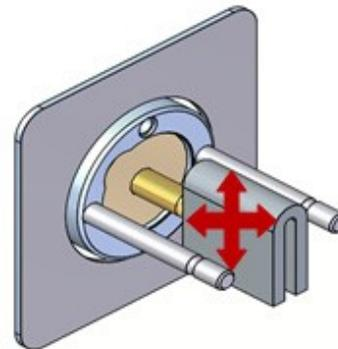

Figure 10: Cleaning the piston
- Use the scouring pad included in the seal replacement kit to clean the piston. Gently squeeze the piston within a folded section of the pad and rub the pad along the length of the piston. Rotate the piston frequently to assure the entire surface is scrubbed. After scouring, use a lint-free cloth, dampened with alcohol, to wipe the piston clean (Figure 10).